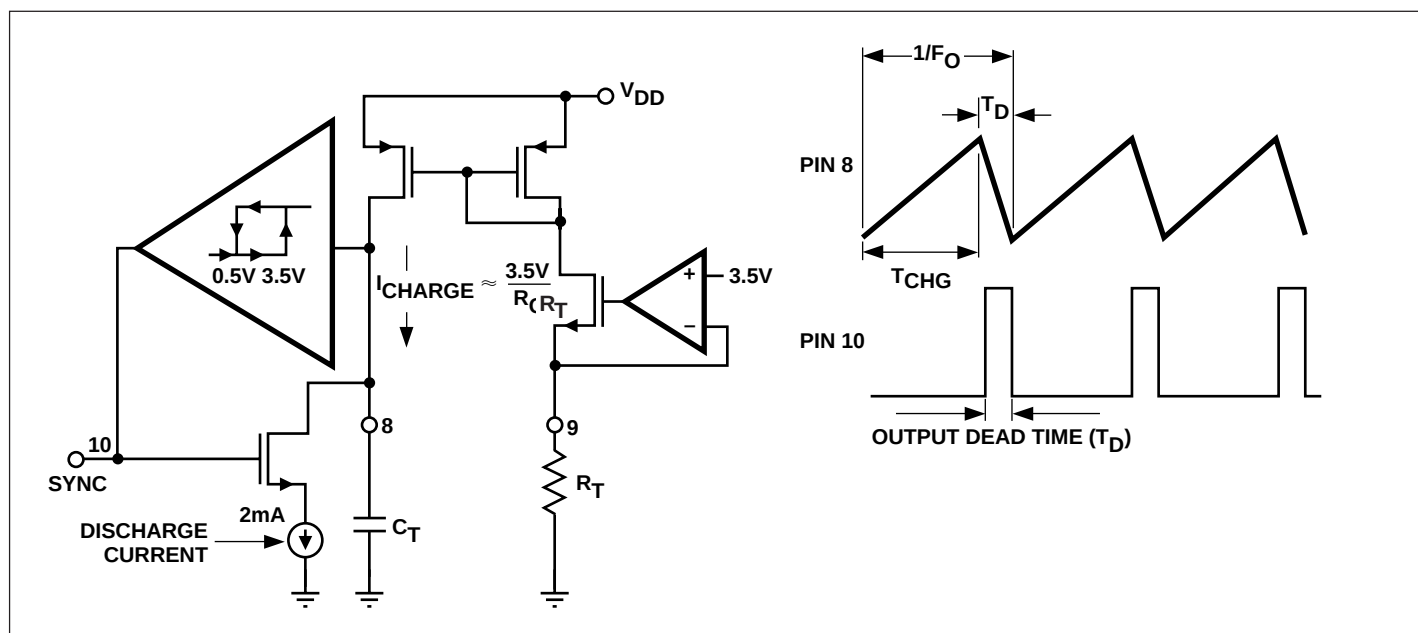

Figure 6. Oscillator Circuit
- 1) First determine the frequency of operation F_O and the desired "dead" time", T_D (see Fig.6 graph).
- 2) The current mirror in Fig. 6, shows: